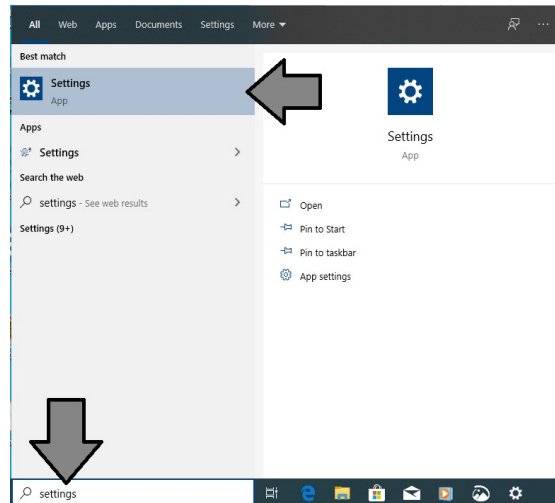

Figure 137: Search for Settings Apps.
1. Press the Windows Key and search for “Settings”, then click on the settings App (Figure 137).